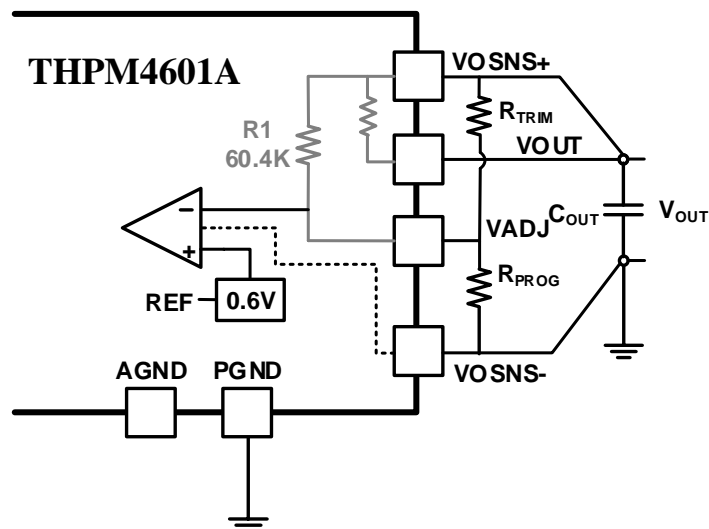

Fig. 2: Output Voltage Trim Circuit
To further improve the set-point accuracy, two resistors can be used in series or in parallel for R_{PROG} or another R_{TRIM} resistor can be used between VOSNS+ and VADJ pins as shown Fig. 2. The resulting output voltage after using an optional R_{TRIM} resistor is given in equation (2).